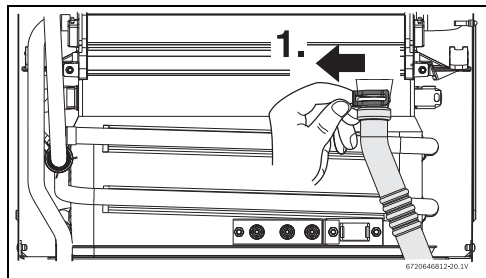

Fig. 39 Disconnect drain tube
- Remove the clip and disconnect the drain tube, see fig. 39.